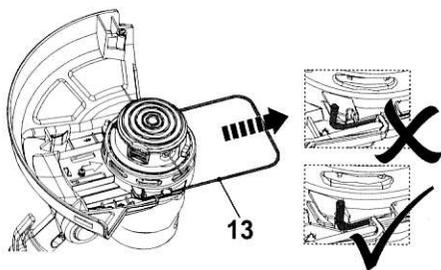

Fig. 10, trimming / edging position
1. Pull the plant protector (13) out until it locks in place for trimming / edging operation (Fig. 10).